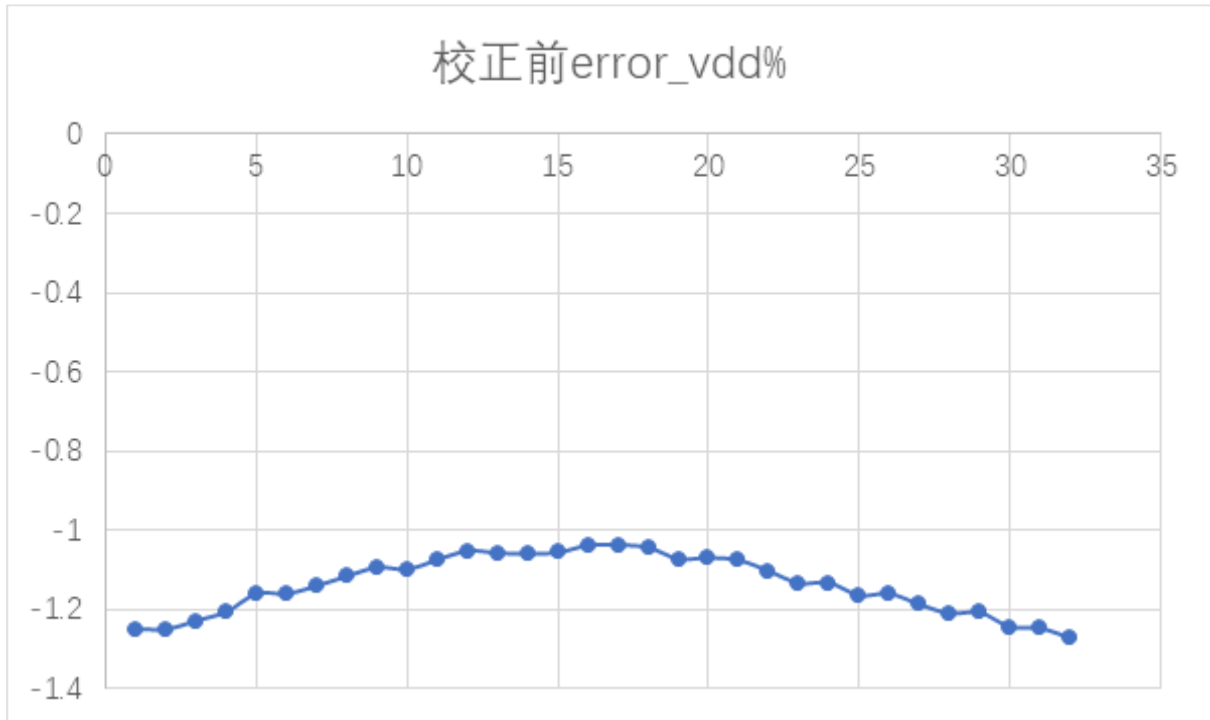

Figure 5.4.2 Error values of the actual output of 17 positions after 2 point programming
- Calculate the theoretical calibration value (ideal_vdd%) of each position at 17 points through the Excel calculation file provided by our company, which can be calculated by various tools such as Excel/MATLAB/C computer software. At present, our company only provides Excel calculation formula documents. The error can be calculated using the formula $error_vdd\% = real_vdd\% - ideal_vdd\%$. Figure 5.4.2 below shows the error value of 17 points before programming calculated by the current data.